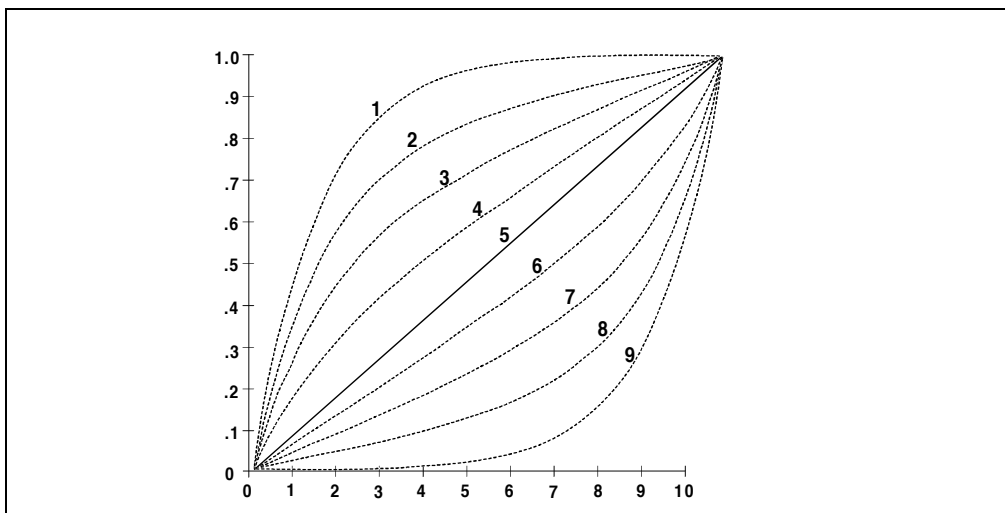

Figure 2-10. Eluent Composition Profile for Curves 1 - 9
The GP50 can produce step, linear, concave, or convex curves in eluent concentration over a specified time period. The slope of the gradient is determined by the selected gradient curve (see Figure 2-10) and the time between the starting and ending points of a gradient step. It is important to note the following points:
- Slope changes over time become more extreme as curves go from 6 to 9 (more concave) and from 4 to 1 (more convex). Figure 2-10 shows the eluent composition profiles corresponding to curves 1 through 9, normalized for 0–100% for 10 minutes.